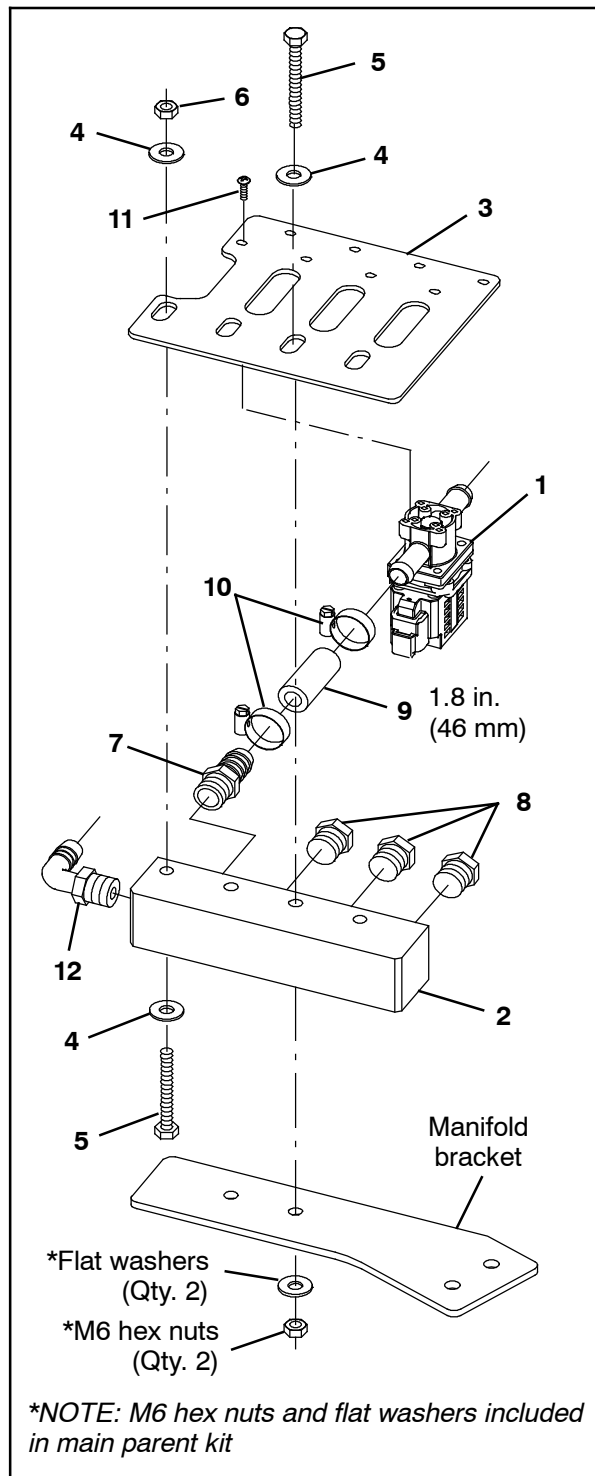

FIG. 1
1. Thread a plug fitting (8) into the solution manifold (2) ports not to be used for the applicable kit installation. Refer to the applicable kit/IB for port(s) to be left open. (Fig. 1)
NOTE: Only install plug(s) (8) into solution manifold (2) port(s) not used for installation of applicable kit. Refer to kit/IB for ports to be left open. (Fig. 1)
2. Thread the plastic elbow fitting (12) into the solution manifold (2). (Fig. 1)
3. Thread the plastic straight fitting (7) into the solution manifold (2) MAIN port. (Fig. 1)
4. Use a hose clamp (10) to connect the 1.8 in. (46 mm) PVC hose (9) to the plastic straight fitting (7) in the solution manifold (2) MAIN port. (Fig. 1)
5. Use a hose clamp (10) to install the water solenoid valve (1) onto the 1.8 in. (46 mm) PVC hose (9) installed at the solution manifold (2) MAIN port. (Fig. 1)
6. Thread a plastic straight fitting into the applicable solution manifold (2) port for the kit being installed. Refer to the kit/IB for the port requiring a plastic straight fitting. (Fig. 1)
7. Use a hose clamp to connect the 1.8 in. (46 mm) PVC hose to the plastic straight fitting installed in the previous step. (Fig. 1)
8. Use a hose clamp to install a water solenoid valve onto the 1.8 in. (46 mm) PVC hose installed in the previous step. (Fig. 1)
9. Use two M6 hex screws (5), four flat washers (4), and two M6 hex nuts (6) to install the solution manifold assembly assembled in the previous steps onto the manifold mounting plate (3). (Fig. 1)
10. Use two pan screws (11) to secure the water solenoid valve (1) installed at solution manifold (2) MAIN port to the manifold mounting plate (3). (Fig. 1)
11. Use two pan screws to secure the other water solenoid valves to the corresponding locations on the manifold mounting plate (3). (Fig. 1)
12. Use two M6 hex screws (5), two flat washers (4), and two M6 hex nuts to install the solution manifold assembly in the previous steps onto the manifold bracket. (Fig. 1)